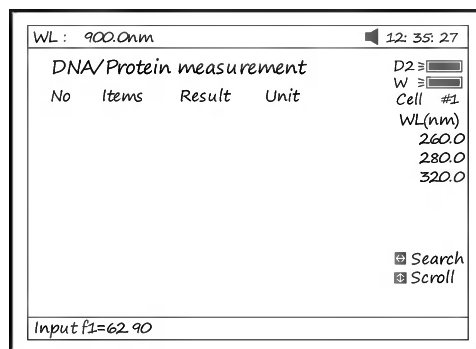

Fig 61
1. To use a simpler or different algorithm, you can enter your own values for f1-f4. Press **【F1】** to set f1-f4. Input the value by pressing the numeric keypad (Fig 61).